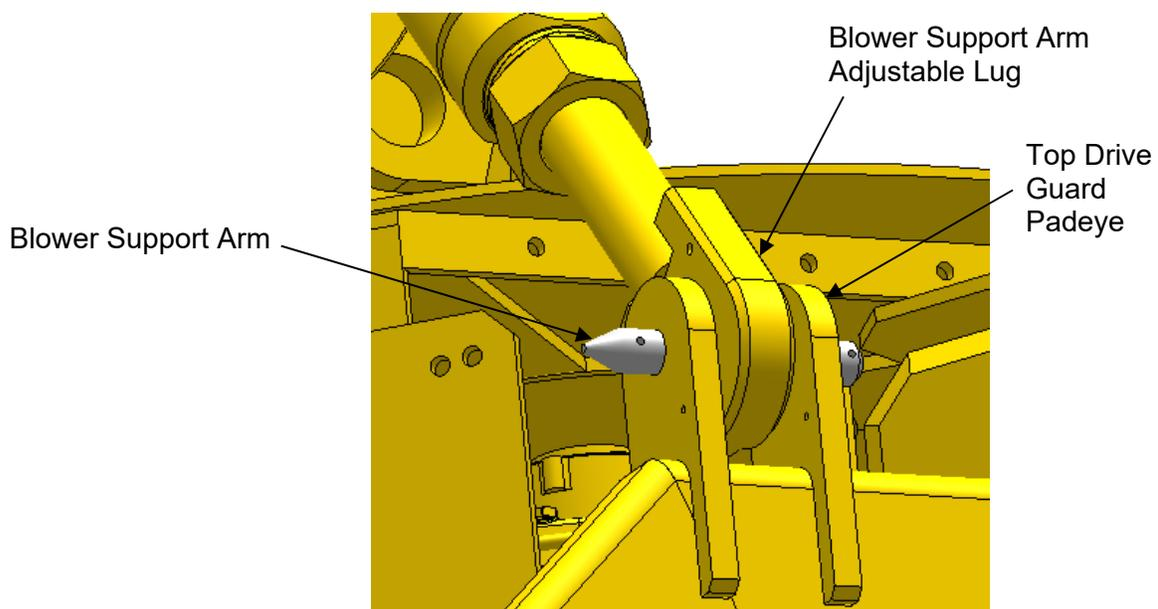

Figure: 4.12 Aligning blower support arm
6. Install the lower lug onto the top drive pad eye as shown in Figure 4.12.